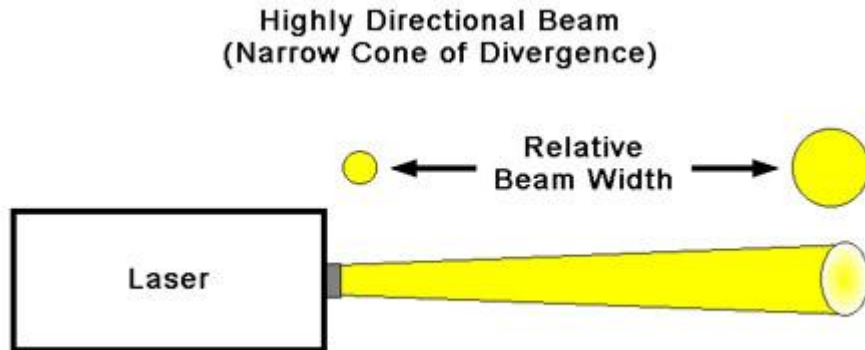

Fig. 4
(12) Figure 4 illustrates the highly directional nature of light produced by a laser. "**Directionality**" is the characteristic of laser light that causes it to travel in a single direction within a narrow cone of divergence.